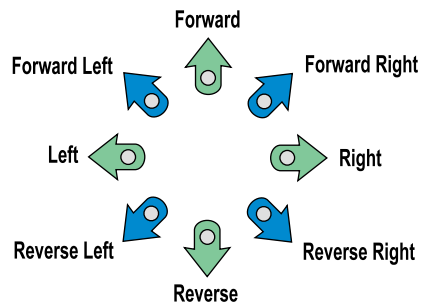

Figure 2. Directional LEDs
2. To move in any direction, wait until the desired Directional LED is lit, then press and hold down the Select Switch to move your power chair in that direction. The Scanner will automatically return to the Forward Direction LED after any power chair movement. See figure 2.
1. Press the Select Switch when the Environmental Mode LED is lit. Once selected, the Scanner will cycle clockwise from the top (forward) LED. See figure 2.